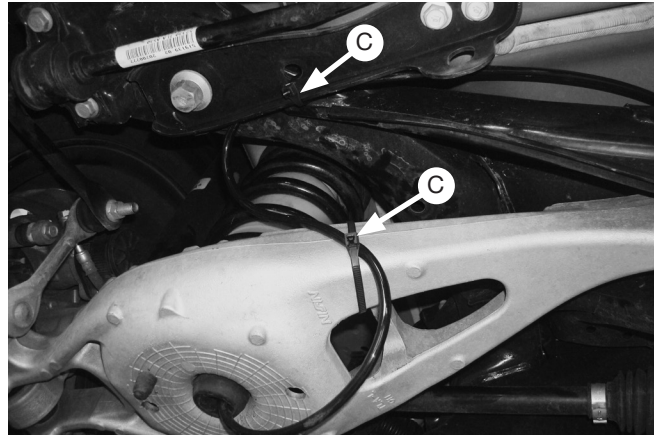

Fig. 7
- Push the air spring to the bottom of the coil spring and route the air line as shown in Fig. 7. Secure the air line with zip ties (C) to the back of the lower control arms and route air line up to the upper rear crossmember. Zip tie to the upper crossmember. Review air line installation instructions and repeat for the other side.